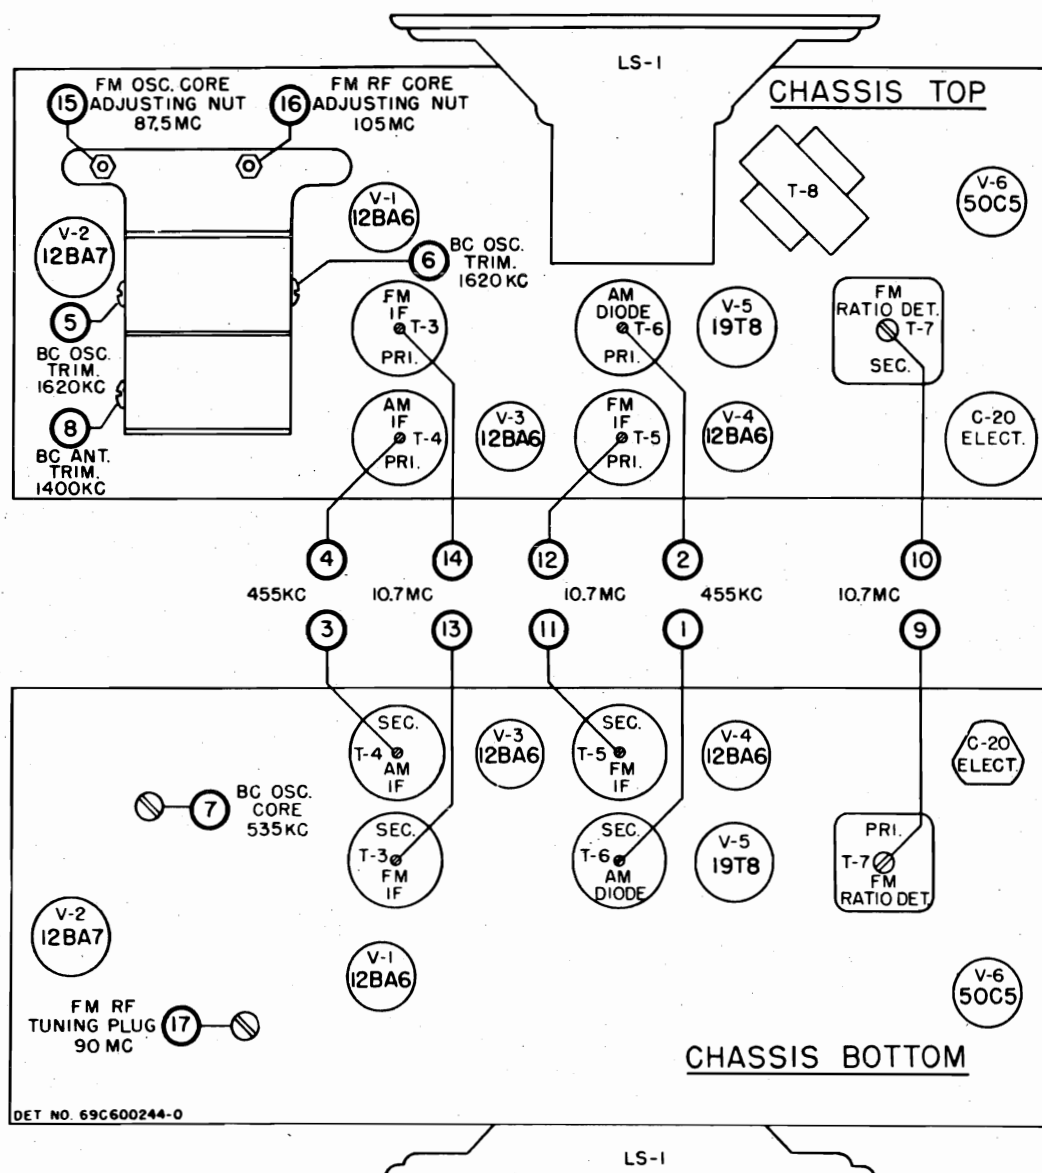

FIGURE 2. TUBE &amp; TRIMMER LOCATIONS
4. Refer to Figure 2 for the location of all alignment trimmers and cores.